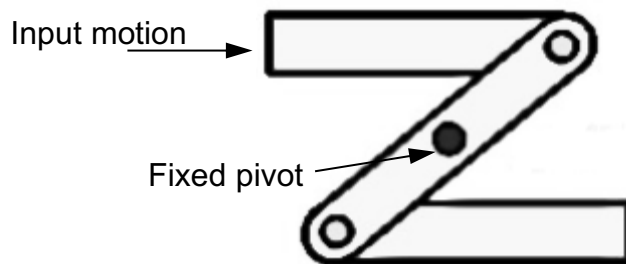

**Fig. 4**
- 7 Figure 4 shows a pair of scissors in use.